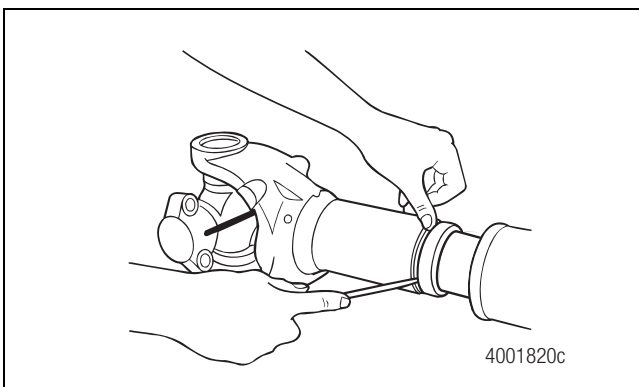

Figure 4.12
2. Use a screwdriver to pry the seal out of the groove in the slip yoke. Figure 4.12.